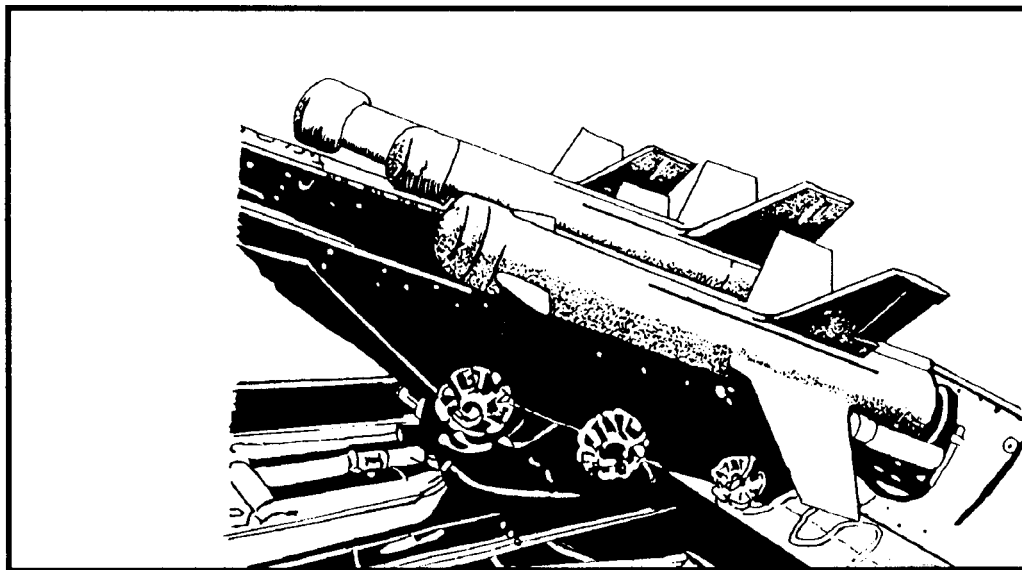

Figure F-5. AT-2 Swatter.
- a. **AT-2 Swatter** (Figure F-5). Three types: A, B, and C.